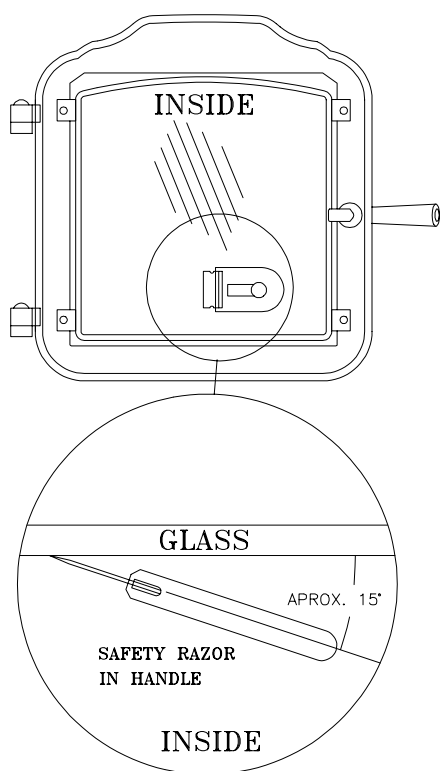

Fig. 29
3. Use a safety razor in a handle to scrape the inside of the glass with the blade almost flat to the surface. See Figure 29. The window can now be cleaned with a liquid cleaner and a non-synthetic cloth.